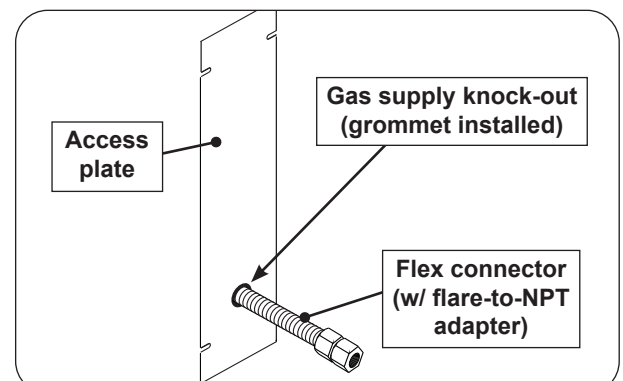

Fig. 27-4 Access plate view & install orientation
2. Remove the plastic grommet (attached to the flex connector) and insert it into the newly created opening. Then route the flex connector through the opening. See Fig. 27-4.